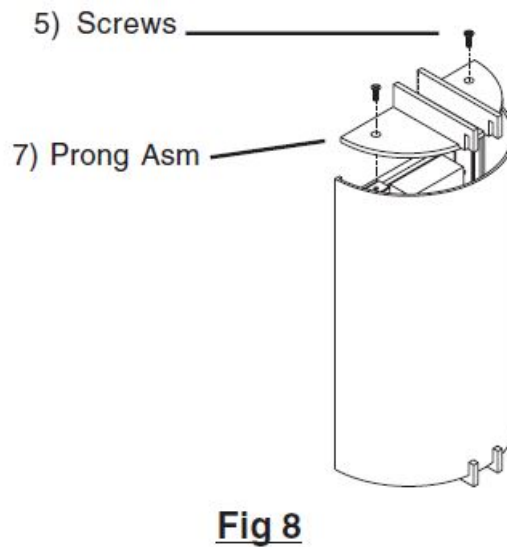

**Fig 6**
2. Install Mounting Brackets (3) by inserting Screw (4) through hole in mounting bracket and secure to housing. Install second screw through slot in bracket and secure to housing. See Fig 6.